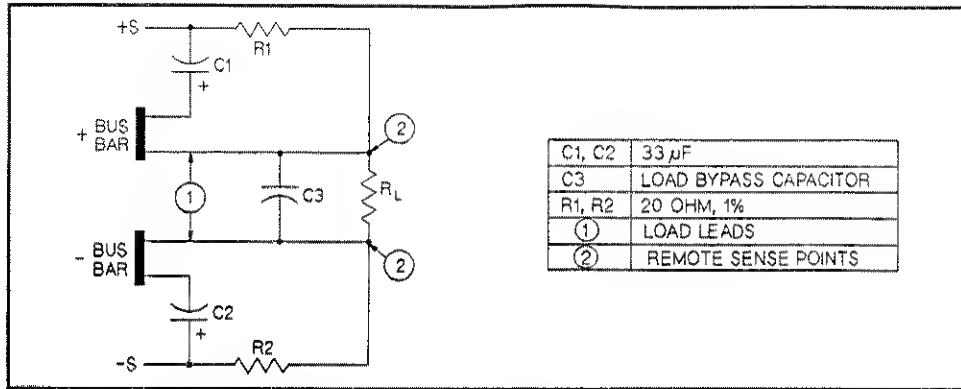

Figure 4-5. Series 657xA Sense Lead Bypass Network
**Series 657xA Network.** If a large bypass capacitor is required at the load and the load-lead length cannot be reduced, then a sense-lead bypass network may be needed to ensure stability (see Figure 4-5). The voltage rating of the 33  $\mu$ F capacitors should be about 50% greater than the anticipated load-lead drop. Addition of the 20- $\Omega$  resistors will cause a slight voltage rise at the remote sensing points. For utmost voltage programming accuracy, the supply should be recalibrated with the DVM at the remote sensing points (see Appendix A).